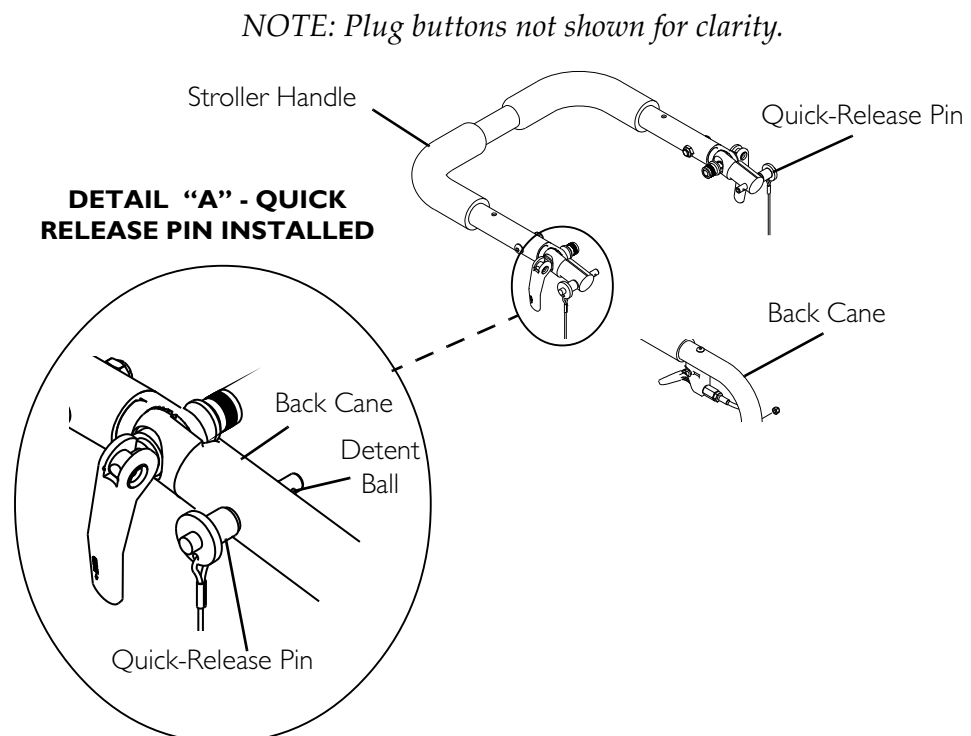

FIGURE 6.3 Installing/Removing/Adjusting the Adjustable Angle Stroller Handles
NOTE: For this procedure, refer to FIGURE 6.3.
4. Secure adjustable angle stroller handle to the back canes with the two quick-release pins (Detail "A" of FIGURE 6.3).